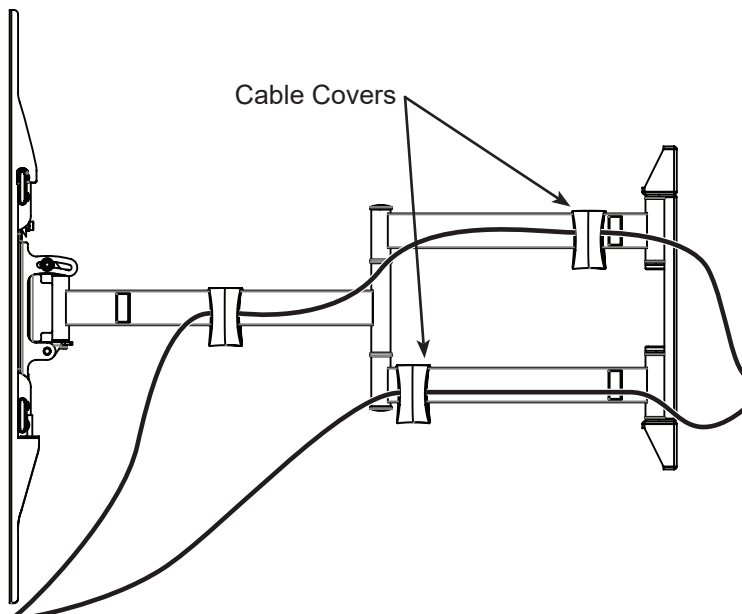

Figure 5
1. Route electrical and data cables along the Arm Assembly and secure in place using the provided Cable Covers (Figure 5).